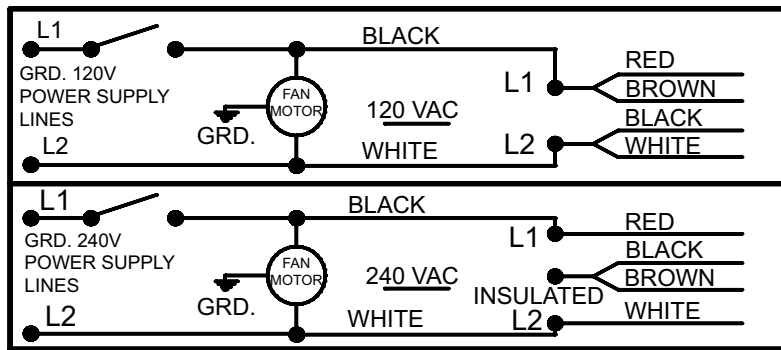

Figure 3 - Wiring Diagram - 120V & 240V, 60Hz
3. Make proper wiring connections. See Figure 3. NOTE: UNIT IS NOT FIELD SERVICABLE AND SHOULD BE REPLACED AS AN ASSEMBLY.